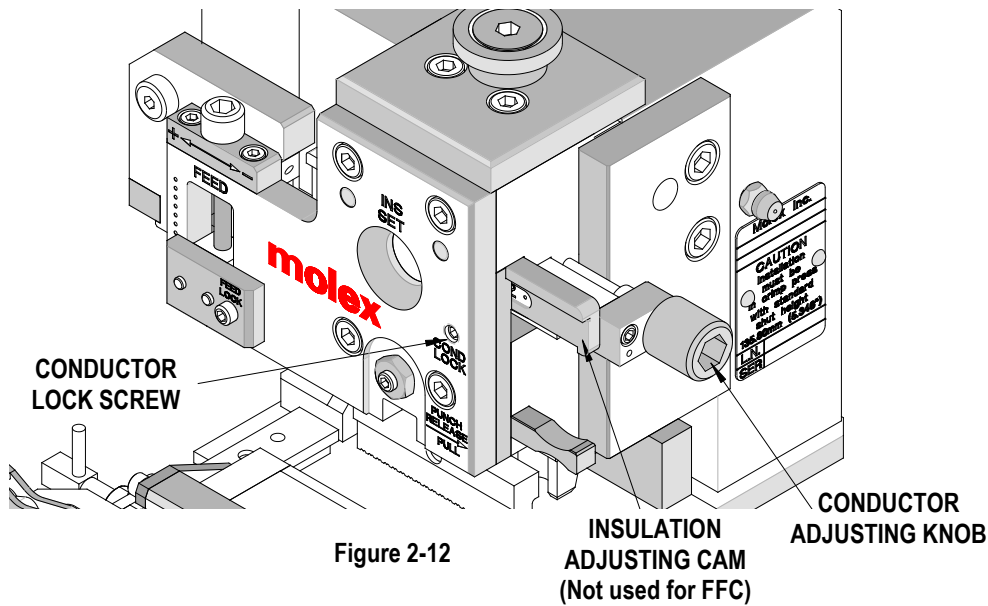

Figure 2-12
2. Inspect the quality of crimp and measure the crimp height. For FFC, a standard micrometer can be used. If adjustments are necessary, disconnect the power from the press. Open the guard door. The desired crimp height can be achieved by loosening the COND LOCK screw and turning the turning conductor cam adjusting knob clockwise to lower the crimp height or counterclockwise to raise the crimp height. Tighten the COND LOCK screw to prevent the conductor crimp adjustment from moving. See figure 2-12.